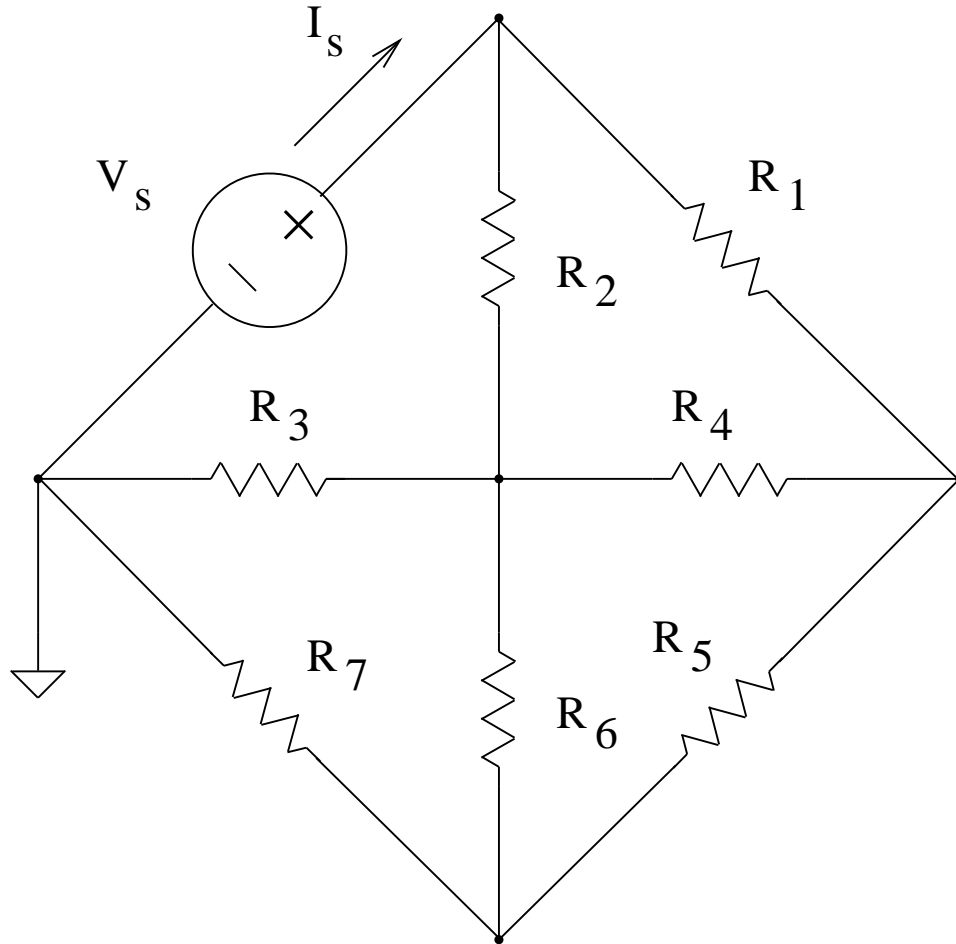

Figure 28: A second resistive network
2. Now try a second circuit as seen in Figure 28.
2. For the circuit of Figure 28, compare the simulated and experimental voltages and currents. **Use a table.**